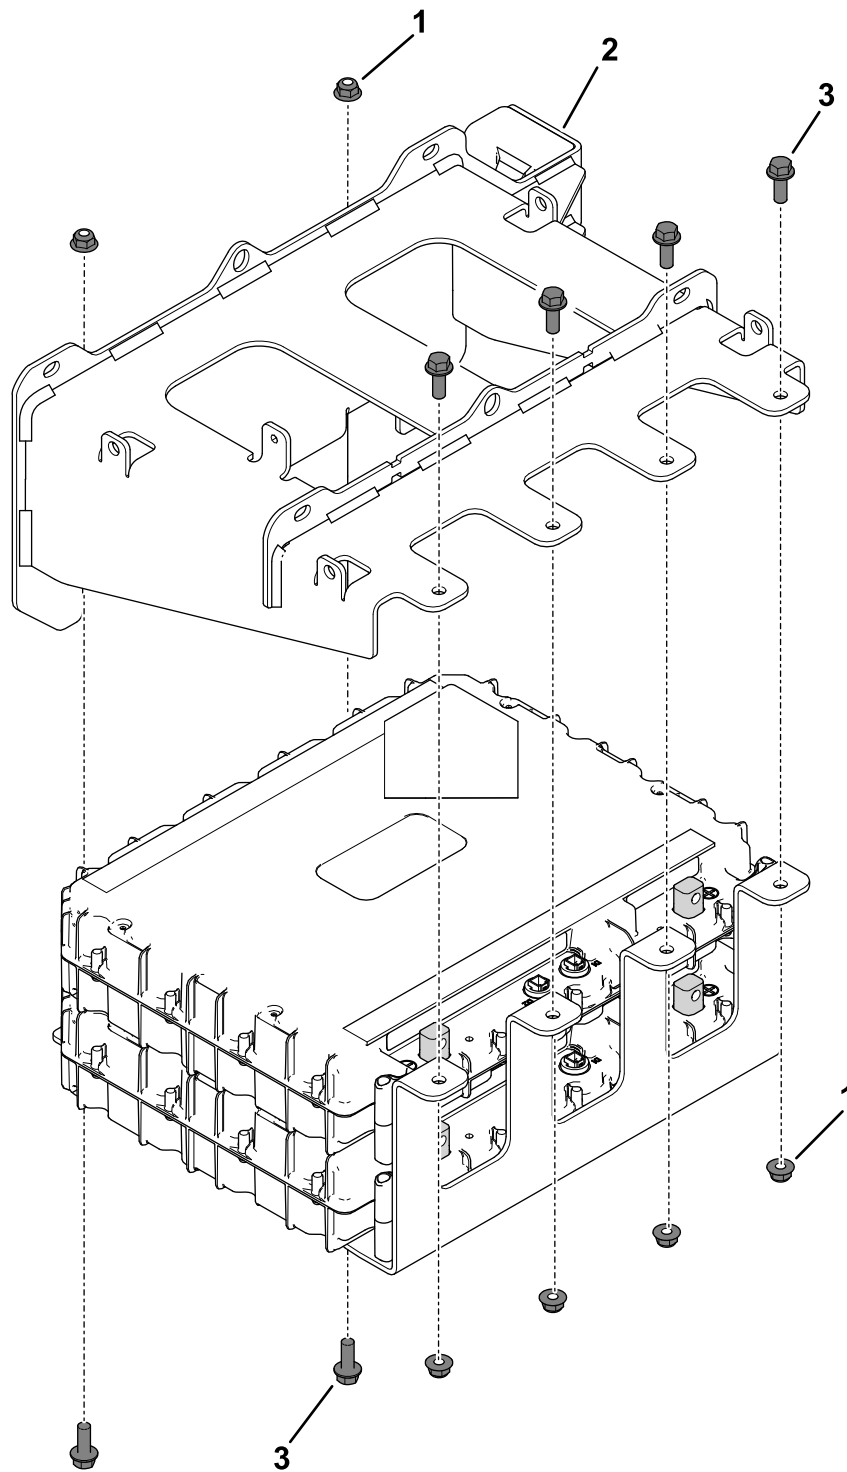

Figure 21
5. Use 6 flange bolts (3/8 x 1 inch) and 6 flange nuts (3/8 inch) to loosely secure the lower mount plate to the bottom base plate (Figure 21)